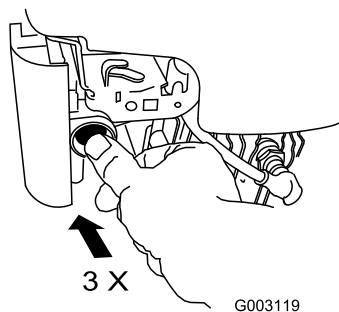

Figure 15
2. Firmly push in the primer 3 times with your thumb, holding the primer in for a second before releasing it each time (Figure 15).